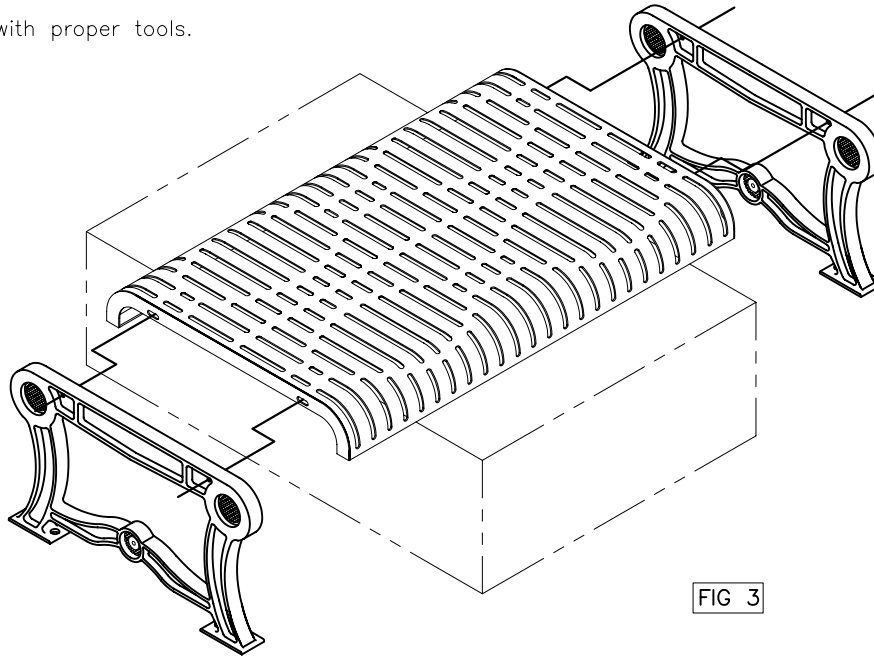

FIG 3
Place the low profile bench (A-) on a strong sturdy object and attach legs (B2) with one (G), (F), (J) and (E) per hole with the washer on the bench side, see FIG. 3.